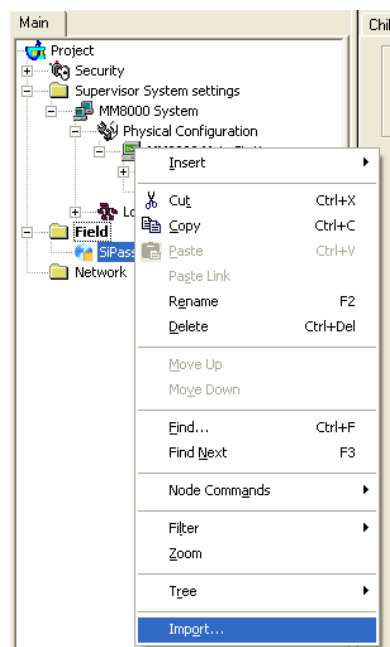

Fig 9 Start SiPass off-line import
2. Select Tools→Import or right-click the SiPass node and select Import (Fig 9).